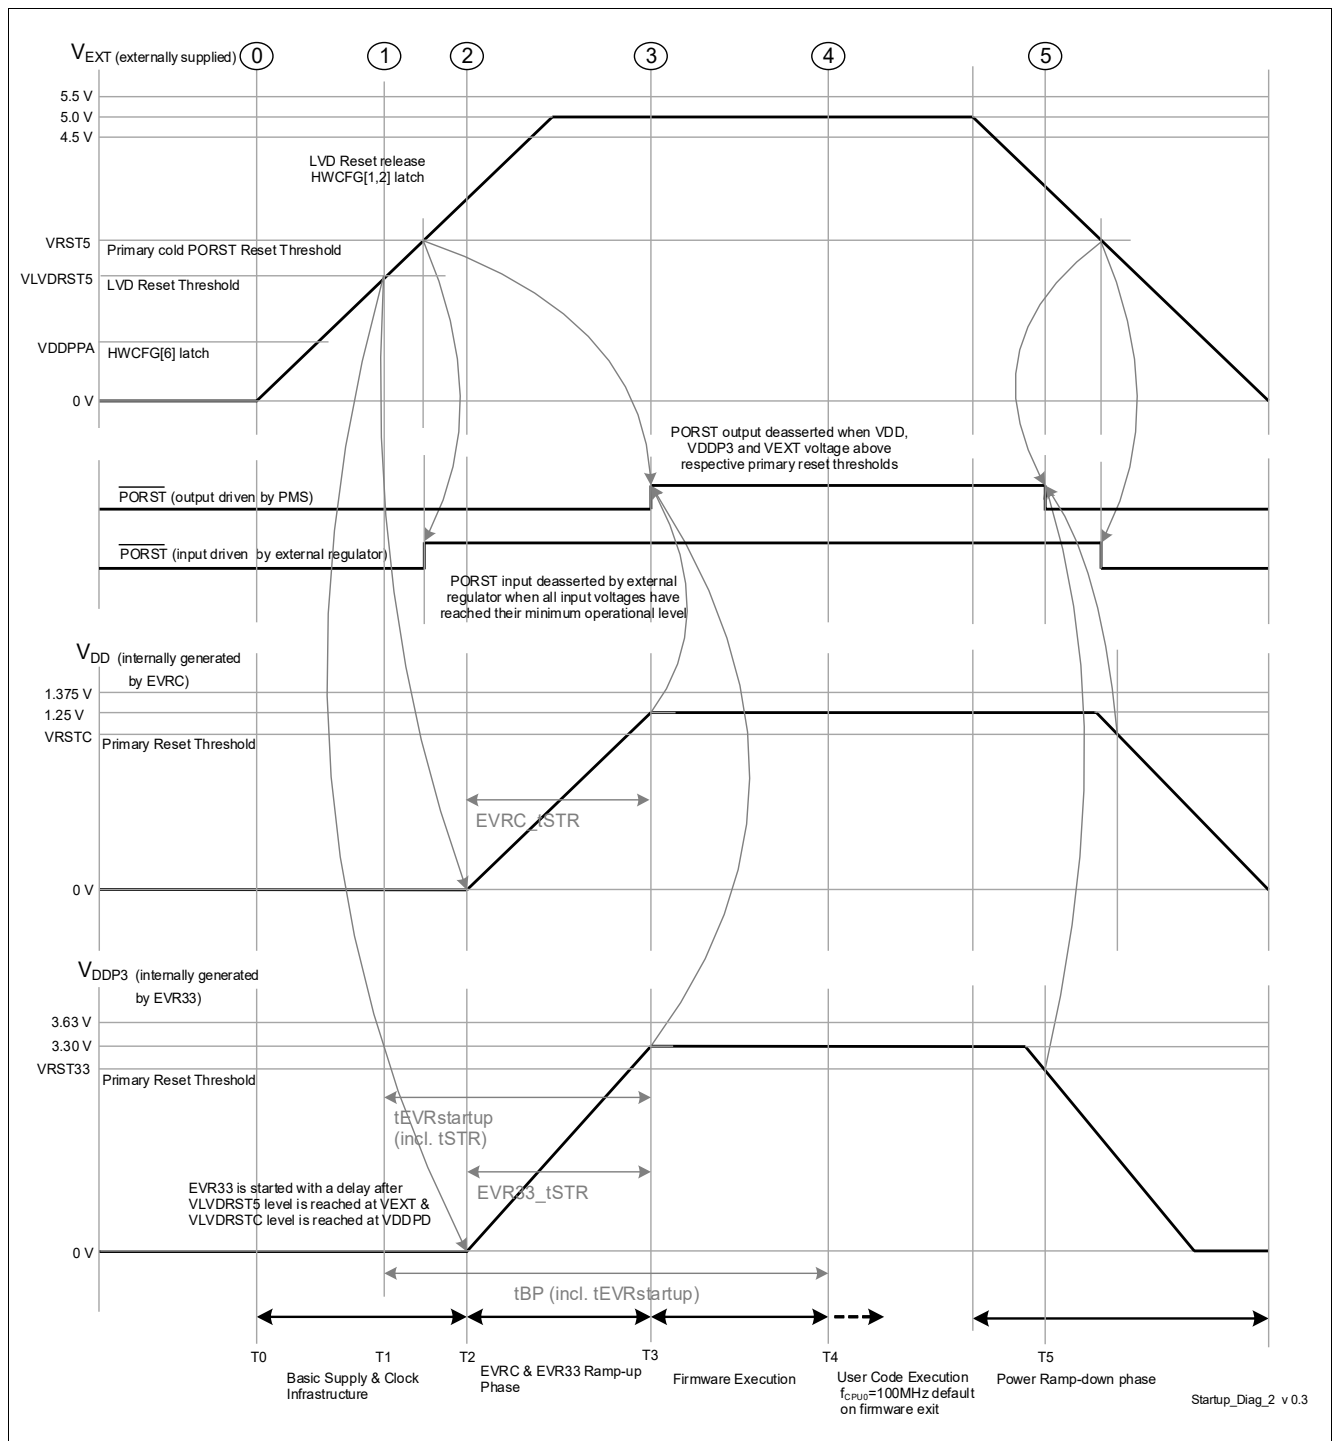

Figure 3-3 Single Supply mode (a) - V_{EXT} (5 V) single supply
- The power sequence as shown in Figure 3-3 is enumerated below